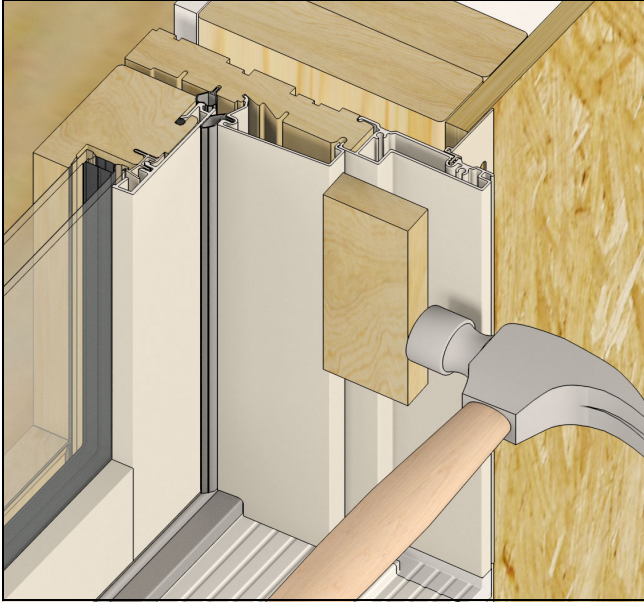

Figure 17
1. Remove covers by starting at the top of the exterior part stop, using a hammer and block, impact the exterior surface to start to disengage the cover from the accessory kerf. Continue to work down the cover to fully remove it. See Figure 17.